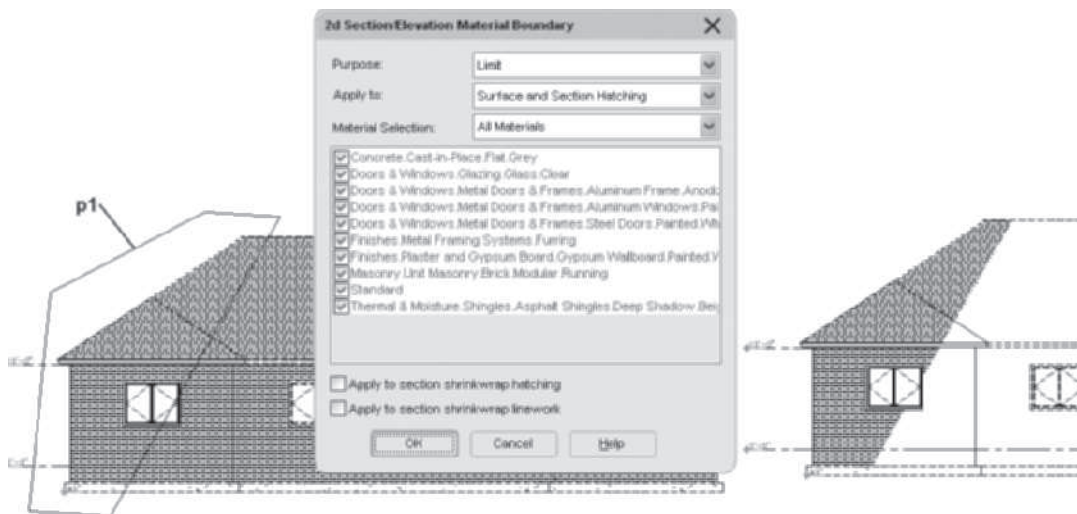

FIGURE 12.76 Editing hatch of the elevation
29. Select the Home tab. Select the **Polyline** command from Line flyout menu of the Draw panel. Draw a closed polyline as shown in Figure 12.76. Select the elevation, choose **Add** from the **Material Boundary** panel. Respond to the workspace prompts as shown below to modify the hatch pattern:
Select a closed polyline for boundary: (Select the polyline as shown at p1 in Figure 12.76.)